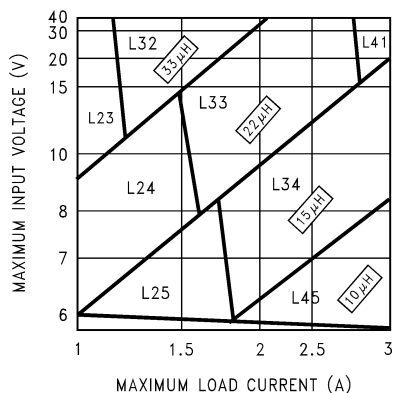
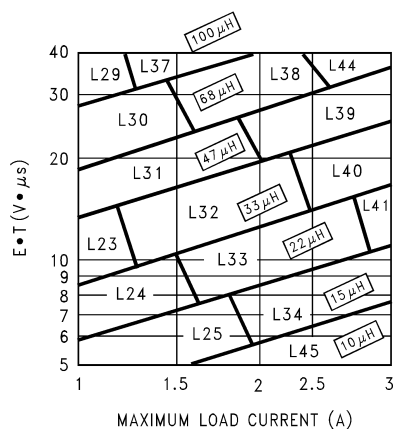

Figure 18. LM2673-3.3
Figure 21. LM2673-ADJ
Step 3: Determine the inductor required by using one of the four nomographs, Figure 18 through Figure 21. Table 1 provides a specific manufacturer and part number for the inductor.
Step 5: Determine an input capacitor from Table 6 and Table 9 for fixed output voltage applications. Use Table 3 or Table 4 to find the specific capacitor type. For adjustable output circuits select a capacitor from Table 3 or Table 4 with a sufficient working voltage (WV) rating greater than $V_{in\ max}$, and an rms current rating greater than one-half the maximum load current (2 or more capacitors in parallel may be required).
Step 3: Use the nomograph for the 3.3V device, Figure 18. The intersection of the 16V horizontal line ($V_{in} \text{ max}$) and the 2.5A vertical line ($I_{load} \text{ max}$) indicates that L33, a 22 μ H inductor, is required.
Step 3: To use the nomograph for the adjustable device, Figure 21, requires a calculation of the inductor Volt•microsecond constant ($E \cdot T$ expressed in $V \cdot \mu S$) from the following formula:
Using Figure 21, the intersection of $27V \cdot \mu S$ horizontally and the 2A vertical line ($I_{load\ max}$) indicates that L38, a 68μH inductor, should be used.
When using the adjustable device in low voltage applications (less than 3V output), if the nomograph, Figure 21, selects an inductance of 22μH or less, Table 12 and Table 13 do not provide an output capacitor solution. With these conditions the number of output capacitors required for stable operation becomes impractical. It is recommended to use either a 33μH or 47μH inductor and the output capacitors from Table 12 or Table 13.